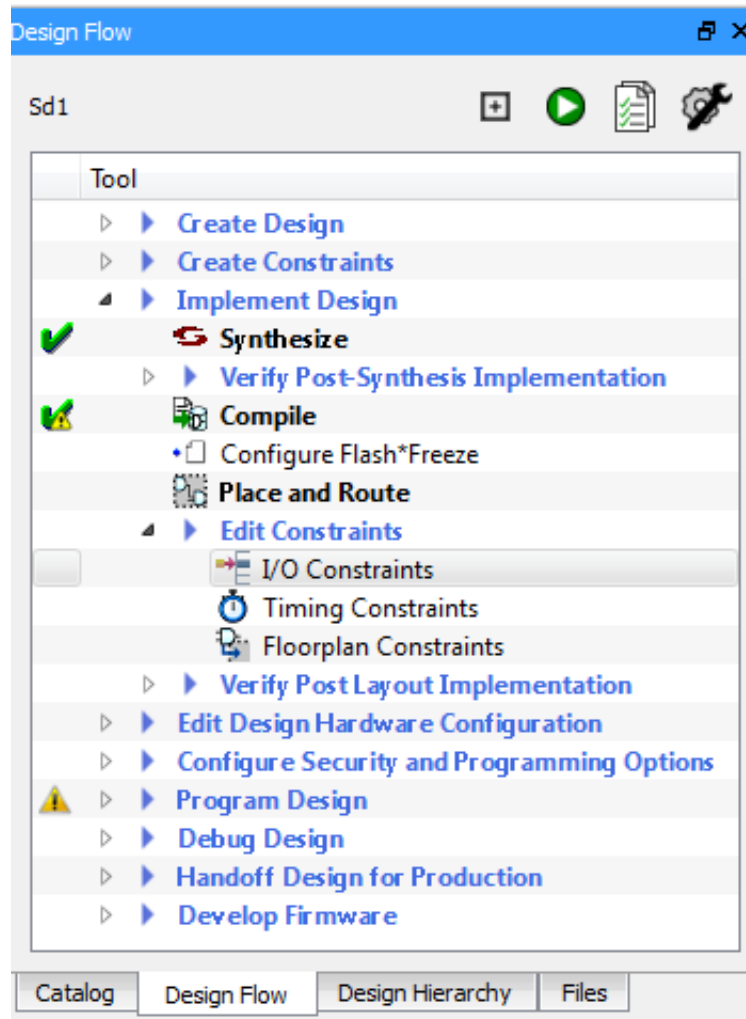

Figure 3 • I/O Constraint Editor Option part of the Design Flow
The Libero® SoC Software provides the option of reserving pins for moving between different devices within the IGLOO2 family where pins within the current device that are not bonded in the destination device can be automatically reserved. This option is available in I/O Constraints Editor which can be accessed from the Design Flow window as shown in Figure 3. This is done in the early stages of the design cycle.
1. After finishing the **Compile** process, select the **I/O Constraints** option from the Design Flow window as shown in Figure 3.